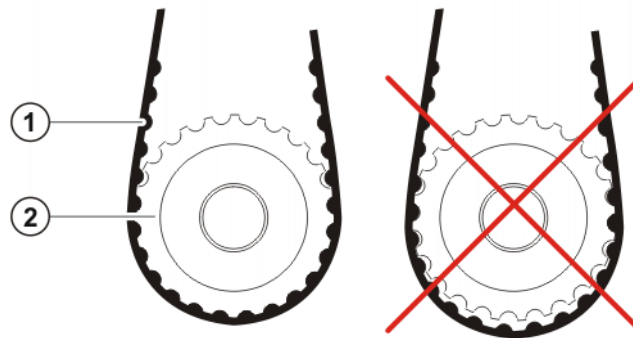

Fig. 9-5: Toothed belt and toothed belt pinion
4. Fit toothed belt A5 and toothed belt A6 in the in-line wrist. Ensure that the toothed belts mesh properly with the toothed belt pinions (>>> Fig. 9-5).